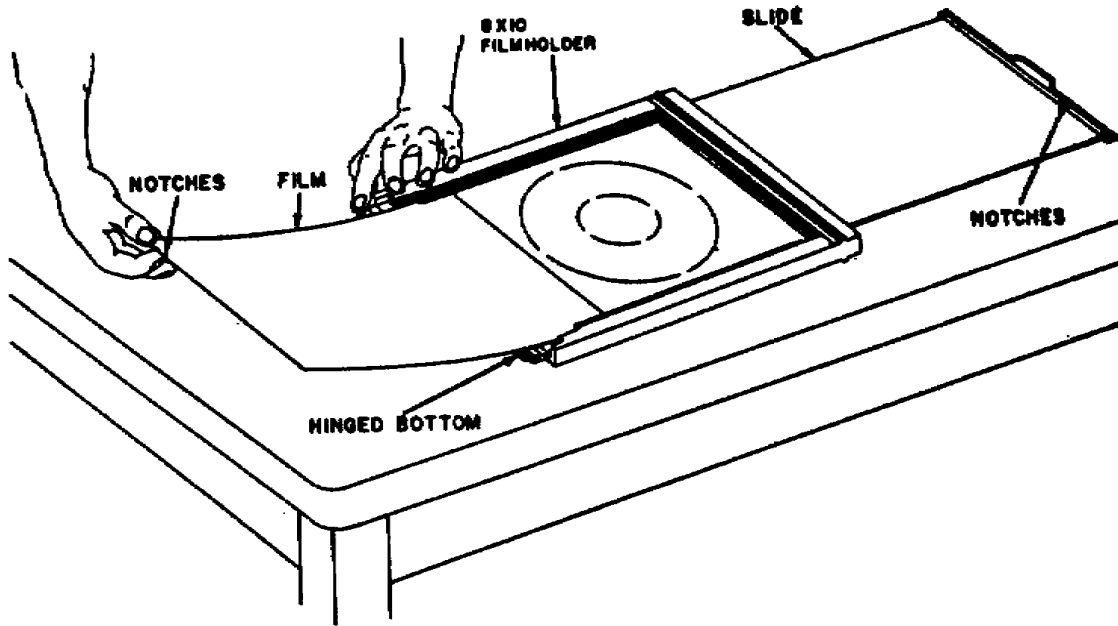

FIGURE 9. Loading 8" x 10" filmholder.
- (1) Pull out the slide and partially reinsert it in the filmholder. Make sure that the bright side of the slide (notches) faces out.
- (2) Open the hinged bottom of the filmholder. Hold the hinged bottom open with the left hand and the film in the right hand, with the forefinger on the notches. Make sure that the notches are in the position as shown, so that the emulsion (dull) side will face up.
- (3) Slide the film into the grooves, along the sides of the filmholder, until it is fully inserted. Close the hinged bottom.
- (4) Insert the slide completely into the filmholder and into the hinged bottom.
- (5) Lift the locking screw (not shown) to hold the slide in position.
- (6) Turn the filmholder over and load the opposite side by repeating the procedures in (1) through (5) above.
b. Loading 8" x 10" filmholders (figure 9). The following procedures apply to each of the 8" x 10" filmholders.